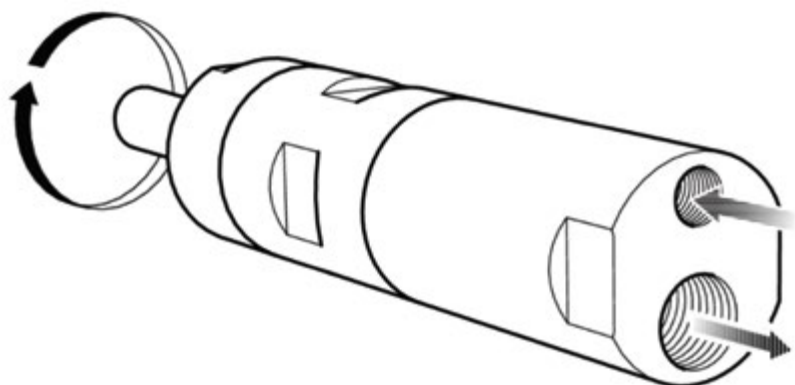

Fig. 1: Direction of rotation of the compressed air motor
- Place a new abrasive on the spindle; pay attention to any direction of rotation of the abrasive possibly specified by the abrasive manufacturer (Fig. 1).